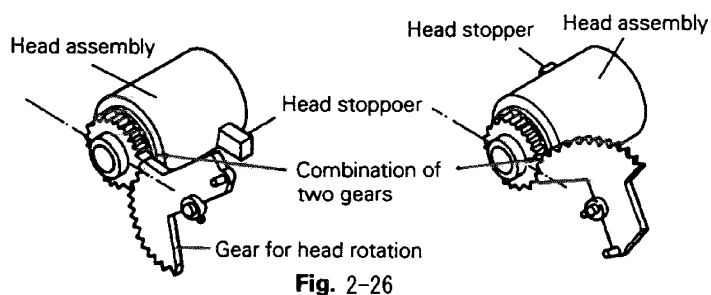

Fig. 2-26
3. Following these main points in Fig. 2-26, proceed with the head gear and the gear for head rotation.